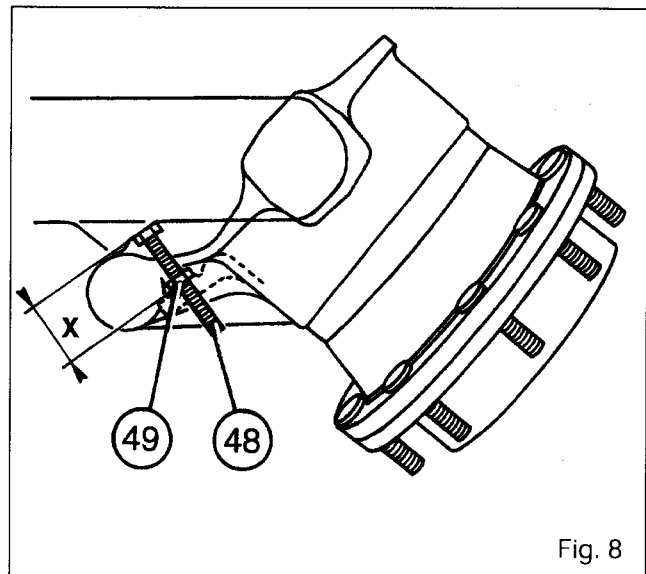

Fig. 8
63. The steering lock stops are adjusted (Fig. 8) by adjusting the bolts (48) See the data below, according to the required steering lock. After this adjustment, adjust the nut (49).